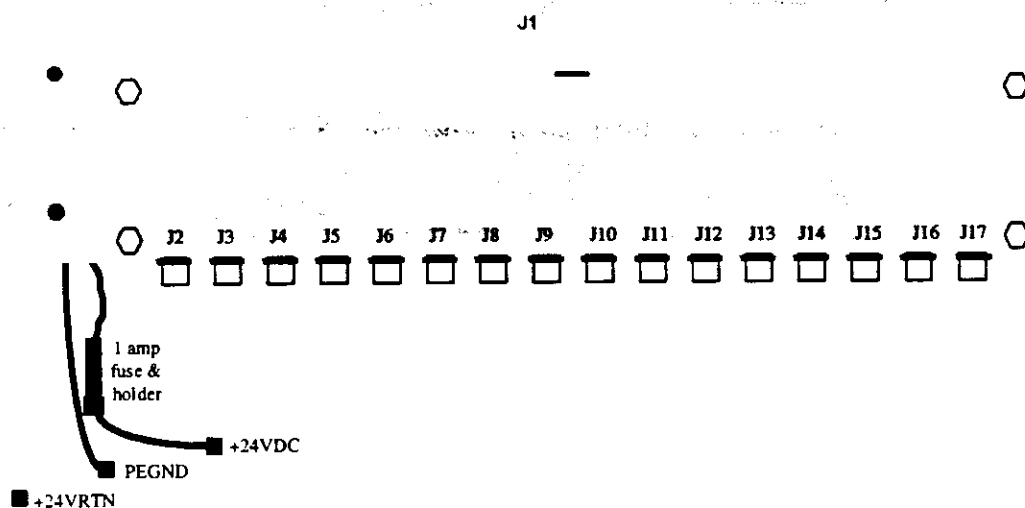

Figure 2-14. 15 MHz Distribution Assembly Connector Designations
One five-foot 15-MHz Reference Cable assembly (8303717G1) is provided with each HIC. Refer to Figure 2-14 for the following procedure.
- d. At 15 MHz Distribution Assembly in primary rack, remove and store termination from the J17 output port. See Figure 2-14 for port location.